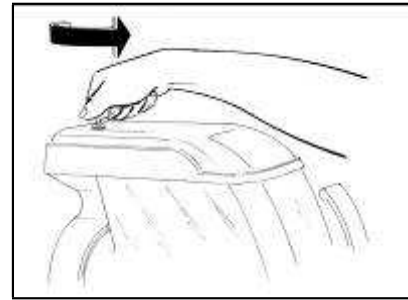

Рис. 23
- After unlocking the main cover with its key (Рис.23), remove the main cover and the secondary one under it (Рис.24).